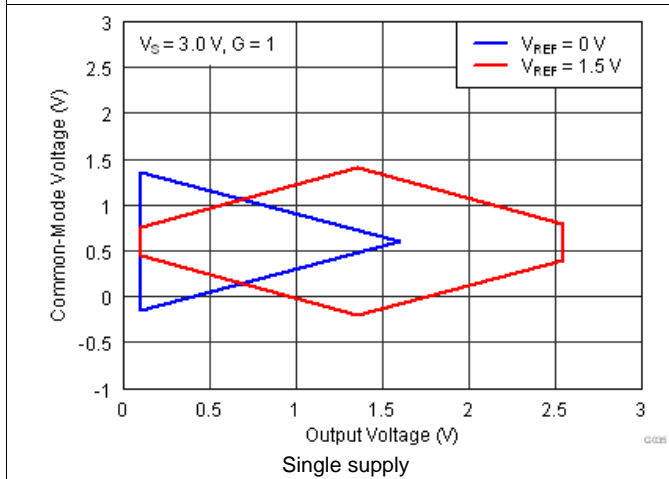
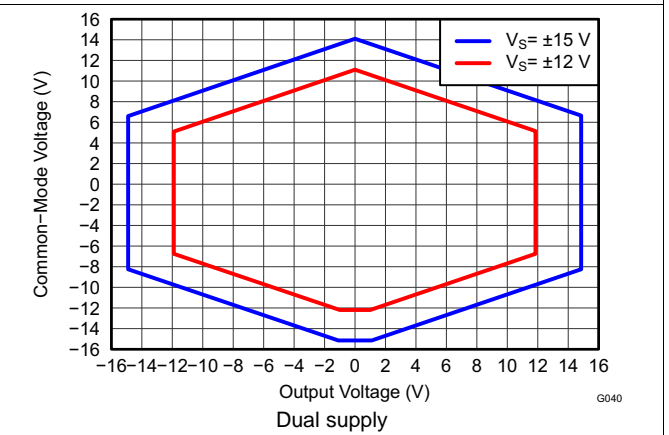

Figure 9. Input Common-Mode Voltage vs Output Voltage
Figure 16. Input Common-Mode Voltage vs Output Voltage
(1) Total offset, referred-to-input (RTI):  $V_{OS} = (V_{OSI}) + (V_{OSO} / G)$ .
(2) Input voltage range of the INA826 input stage. The input range depends on the common-mode voltage, differential voltage, gain, and reference voltage. See *Typical Characteristic* curves Figure 9 through Figure 16 and Figure 41 through Figure 44 for more information.